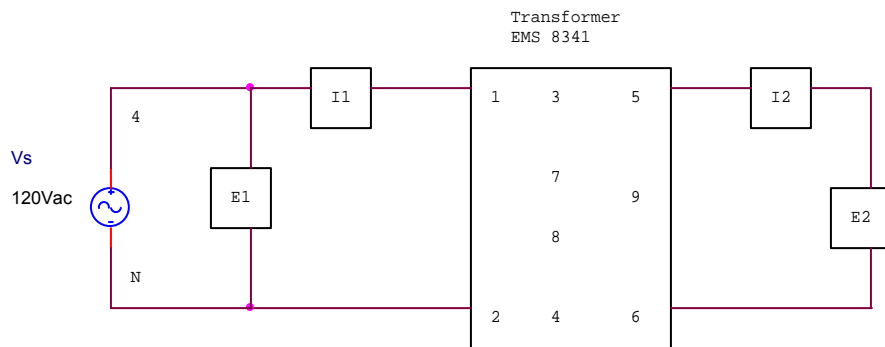

Figure 1 Single Phase Transformer Circuit for part one.
4. Construct the circuit of Figure 1. I1, I2, E1 and E2 refer to the DAI metering connections.
11. Rewire the circuit of Figure 1 to allow measurement of the remaining secondary voltages (E₃₋₄, E₅₋₆, E₇₋₈, ect.). Repeat steps 8 through 10 to complete Table 2.